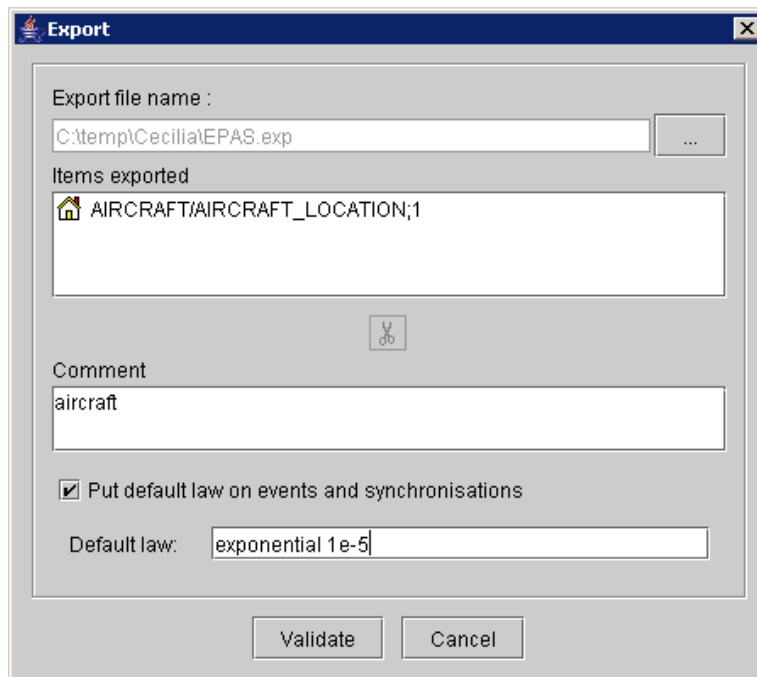

Figure 79 : XML export setup
1. Activate the export setup window (Figure 79) with the **Export** command in **File** menu.